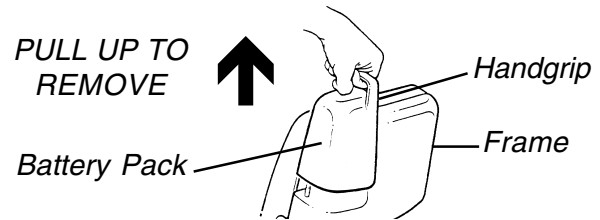

FIGURE 2 - REMOVING THE BATTERY PACK
2. Remove the battery pack by grasping the handgrip on battery pack and pulling upwards (FIGURE 2).